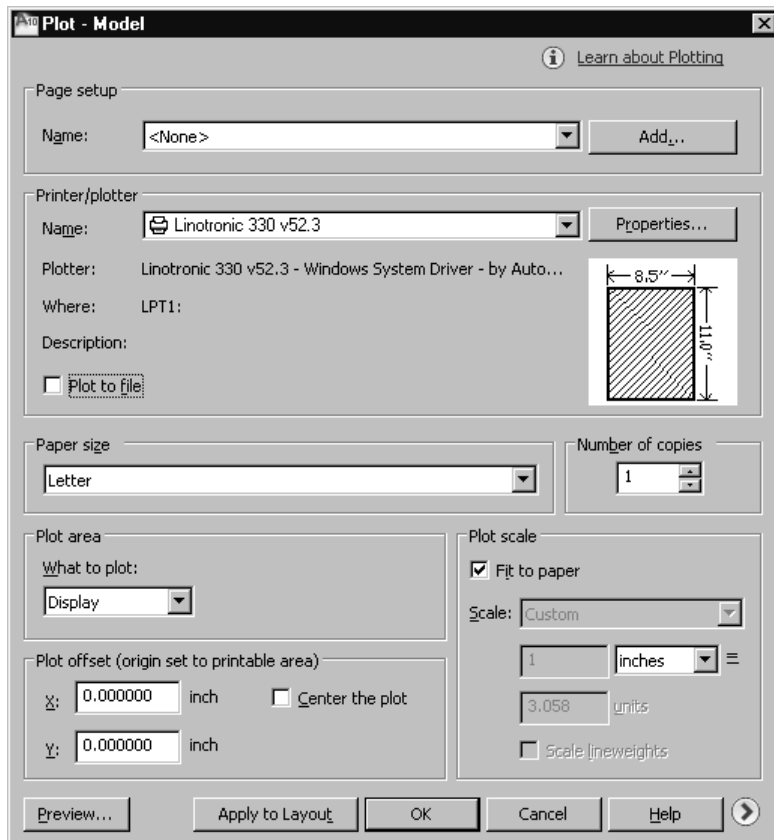

Figure 2-56 The Plot dialog box with the default printer
2. The name of the default system printer is displayed in the **Name** drop-down list in the **Printer/plotter** area. In this example, it is **Linotronic 300v52.3**, see Figure 2-56. You can use any other printer by selecting the name of the device from the **Name** drop-down list.